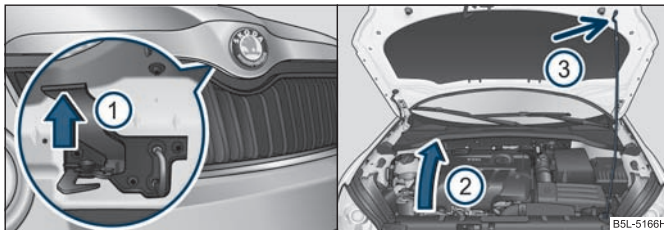

Fig. 162 Radiator grille: Locking lever / securing the bonnet with the bonnet support
- Pressing on the locking lever in direction of arrow ① ⇒ fig. 162 will unlock the bonnet.
- Take the bonnet support out of its holder in direction of arrow ② and secure the opened bonnet by inserting the end of the support in the opening ③ ⇒ fig. 162 designed for it.